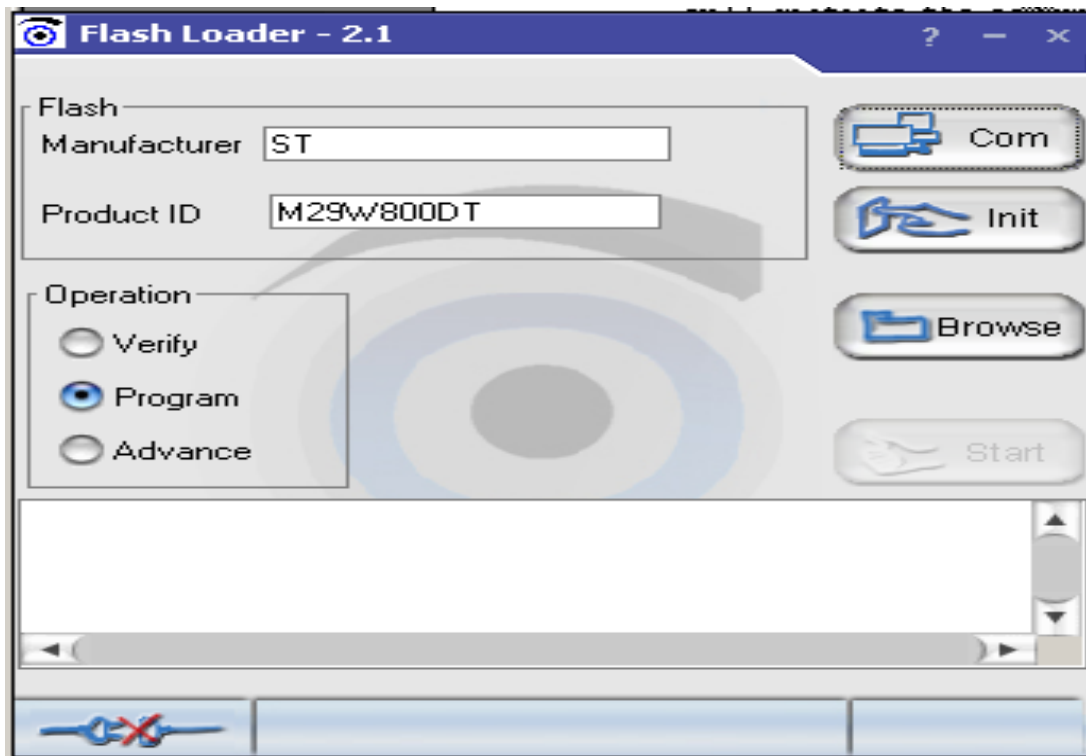

Fig 4) Flash Loader Main Window
**\*Explain to character on Fig 4)**